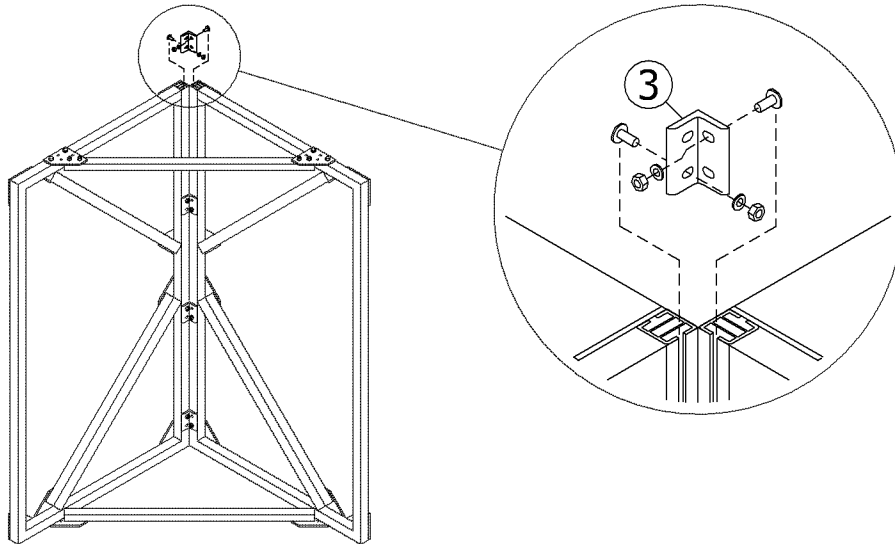

FIGURE 7-A
7. Each corner requires one corner clip angle 1.5 ("3") for every 18" of height. Place two carriage bolts through the holes in the corner clip angle (see Figure 7-A). Apply one washer and nut per bolt. Leave the nuts loose. Slide the heads of the carriage bolts into the slots of the standoff support. Locate one corner clip angle no farther than 6" from each end and every 18" of height. Tighten the nuts with a ratchet or box end wrench.